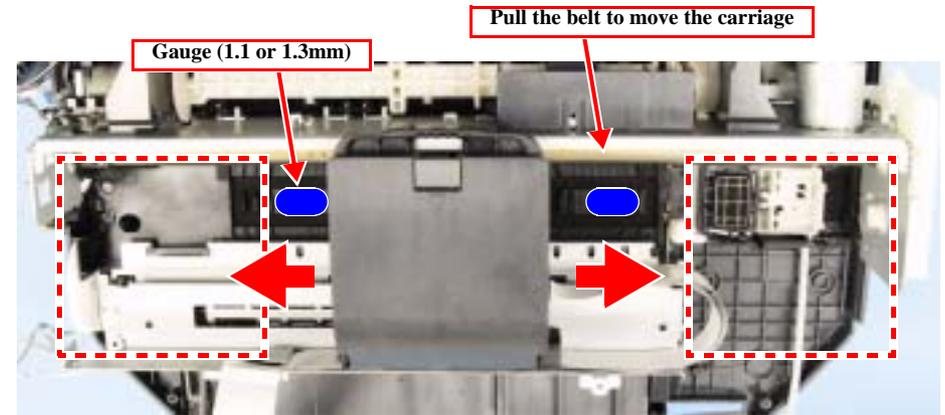

Figure 5-2. PG Adjustment 1
4. Move the carriage to the middle area of the platen, and place 1.1 mm thickness gauges at the left and right ends of the platen. (Fig. 5-2)